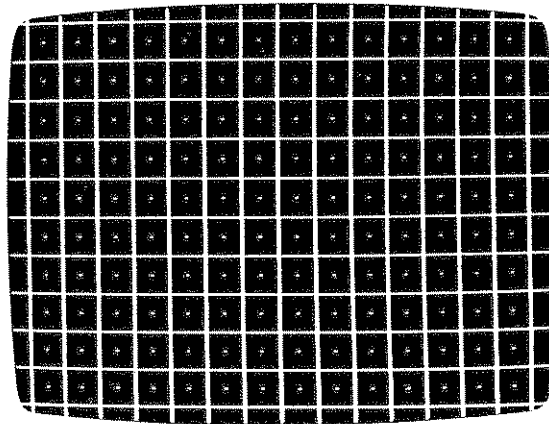

Figure 5.22
5.8 Convergence and Alignment Patterns (See Figure 5.22 and 5.23)